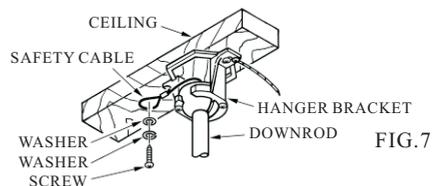

FIG. 7
3. Install the safety cable into the building structure. (see Fig.7)